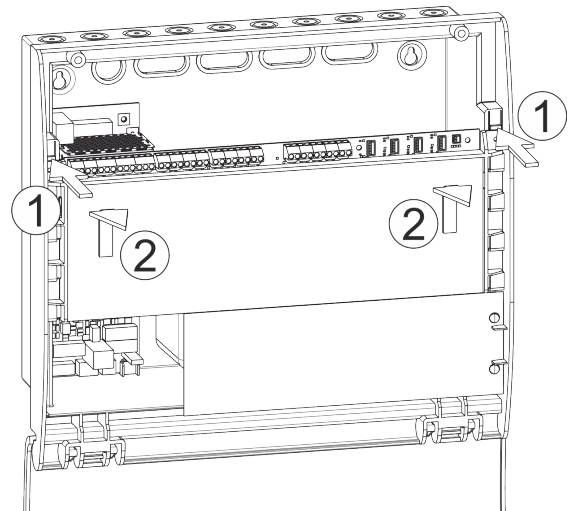
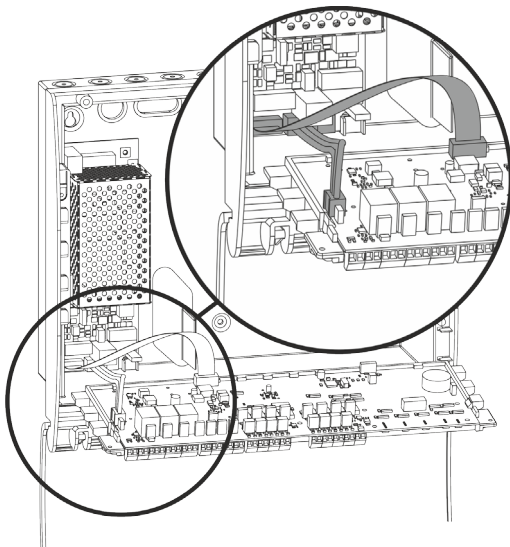
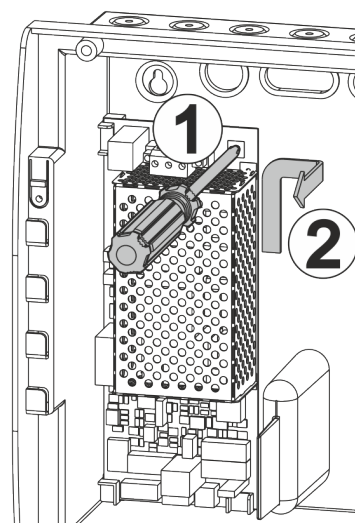

Figure 14: Removing the PCB Shelf
Figure 15: Disconnecting the PSE
Figure 16: Removing the PSE
- To remove the PCB shelf push the clips down (1), then push the shelf towards the top of the back box and then lift forwards (2), see Figure 14.
- To remove the PSE PCB from the back box unplug the cables from the main board as shown in Figure 15, then simply remove the screw and push the PCB up, to the right and forwards as shown in Figure 16.
- Secure the PSE PCB back into the back box by following the reverse instructions in Figure 16.
- Fit the PCB shelf and cables by following the reverse instructions in Figure 14 and Figure 15.
Connect the fused spur to the input marked MAINS on the PSE, observing correct wiring regulations (see Figure 16).